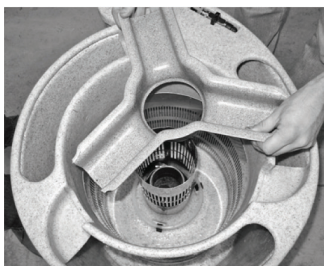

Fig. 7
1. Remove the overflow assembly and safely store the 3 screws which secure it (see Fig.7).